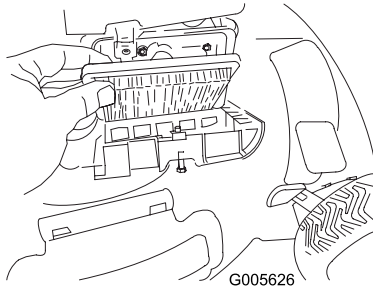

Figure 30
- Replace the air filter (Figure 30).